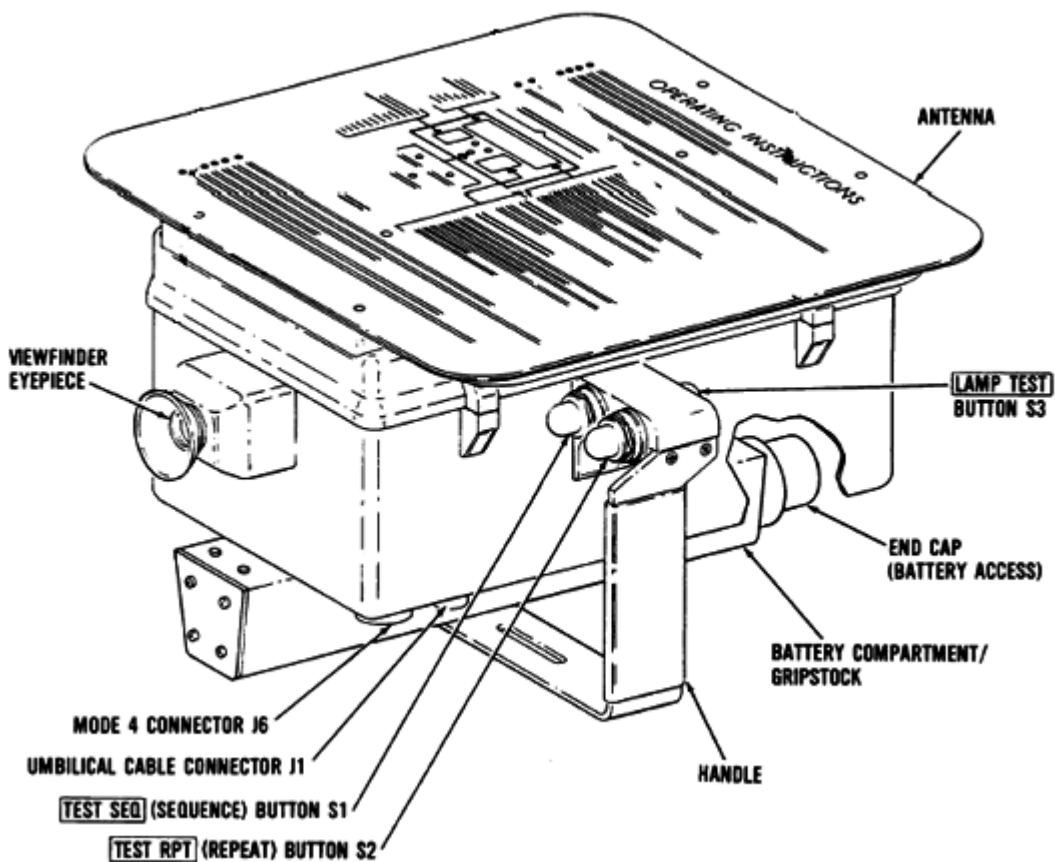
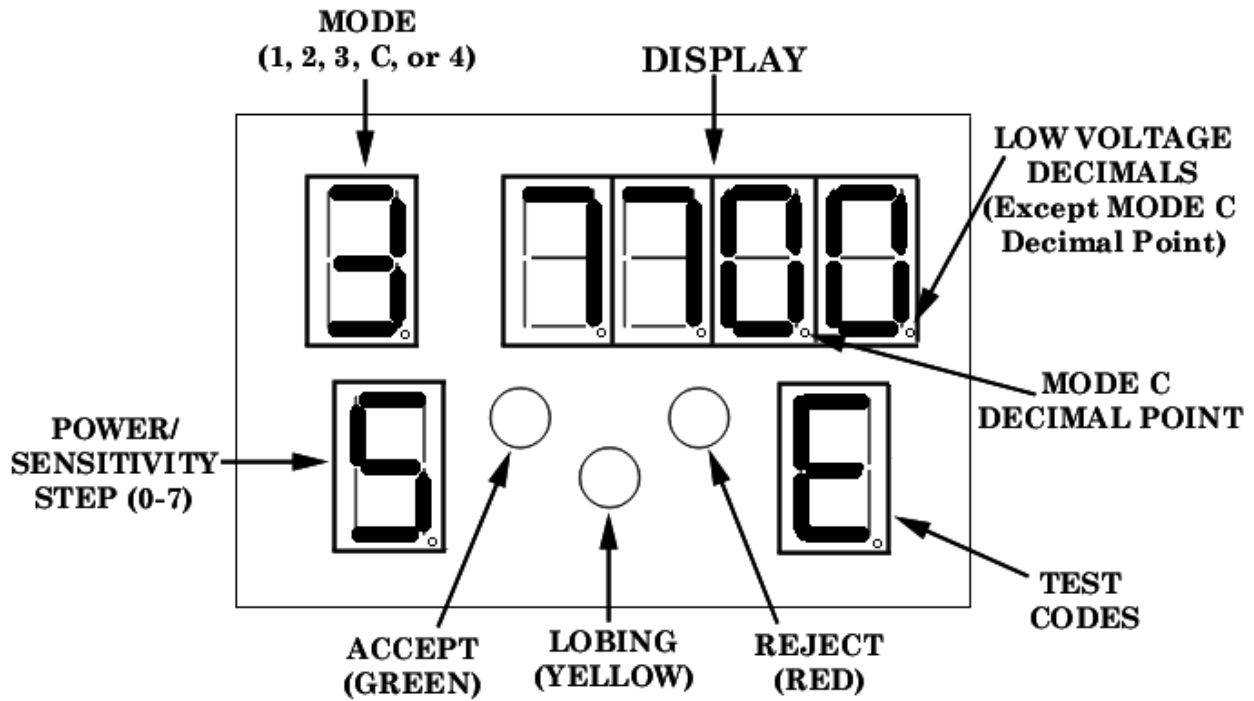

Figure 2. Test set controls and connectors.
Figure 3. Test set display indicators.
b. Observe TI display through VIEWFINDER EYEPIECE (fig. 2). Press and release **LAMP TEST** BUTTON **S3** (fig. 2) pushbutton. TI will indicate **8 888.8** in upper half of display and **8 8** separated by the red, green, and yellow indicators in the lower half of display (fig. 3).
c. Press and release **TEST SEQ** (SEQUENCE) BUTTON **S1** (fig. 2) pushbutton. TI will indicate **MODE 1, 2, 3, or C** (fig. 3) and the reject (red) indicator (fig. 3) will be lit in the lower half of display.
d. Press and release **TEST RPT** (REPEAT) BUTTON **S2** (fig. 2) pushbutton and ensure that the display indication repeats.
f. Press and release **LAMP TEST BUTTON S3** (fig. 2) pushbutton to again obtain indication in (b) above. While viewing the display, press and release the **TEST RPT (REPEAT) BUTTON S2** (fig. 2) pushbutton. The TI must indicate Mode 4 (fig. 3), the test code indicator (fig. 2) must indicate 4, and the reject (red) indicator (fig. 3) must be displayed.